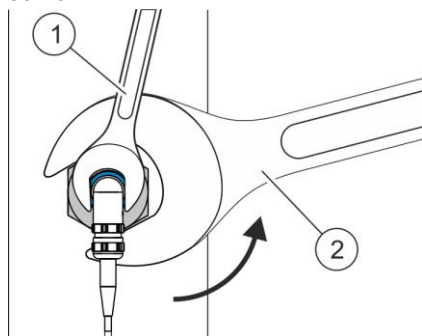

Fig. 65: Releasing the nut of the transmitter
8. Place a 20 mm open-ended spanner (Fig. 65/1) on the transmitter in front of the nut to hold the transmitter in position.
Release the fixing nut with a 46 mm open-ended spanner (Fig. 65/2) in the direction of the arrow.